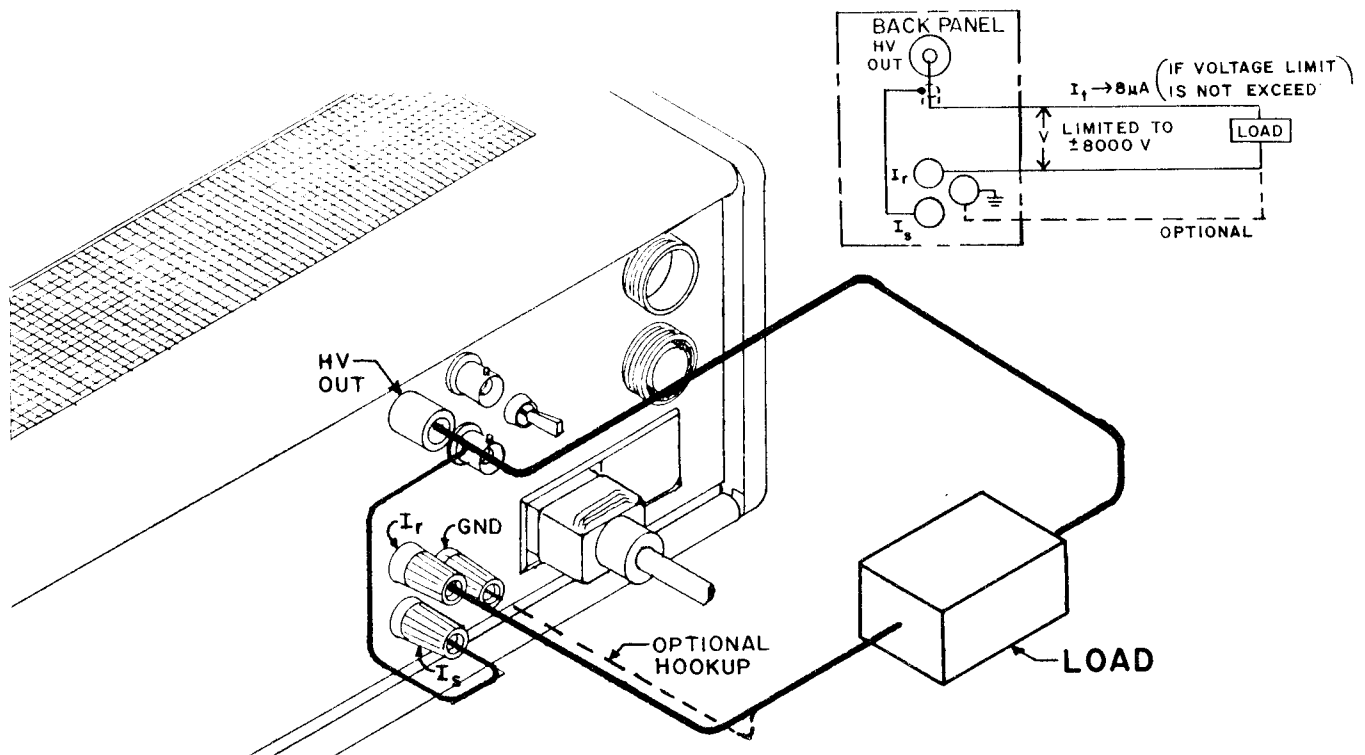

Figure 52. Sample Rear Panel Hook-up I_r Regulated
- b. At the rear panel, make the connections (see Figure 52):